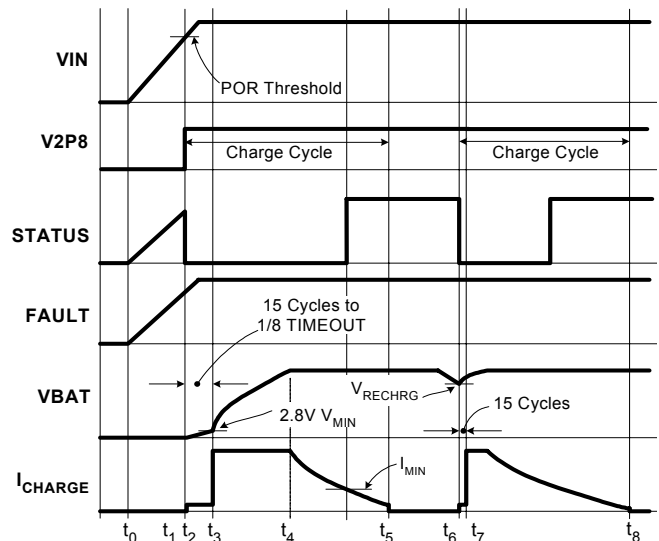

FIGURE 5. OPERATION WAVEFORMS
Figure 5 illustrates the typical signal waveforms for the linear charger from the power-up to a recharge cycle. More detailed Applications Information is given below.
LOW and a HIGH logic signal respectively. Figure 5 illustrates the start up of the charger between  $t_0$  to  $t_2$ .
A charge cycle consists of three charge modes: trickle mode, constant current (CC) mode, and constant voltage (CV) mode. The charge cycle always starts with the trickle mode until the battery voltage stays above  $V_{MIN}$  (2.84V typical) for 15 consecutive cycles of the internal oscillator. If the battery voltage drops below  $V_{MIN}$  during the 15 cycles, the 15-cycle counter is reset and the charger stays in the trickle mode. The charger moves to the CC mode after verifying the battery voltage. As the battery-pack terminal voltage rises to the final charge voltage  $V_{CH}$ , the CV mode begins. The terminal voltage is regulated at the constant  $V_{CH}$  in the CV mode and the charge current is expected to decline. After the charge current drops below  $I_{MIN}$  (1/10 of  $I_{REF}$ , see End-of-Charge Current for more detail), the ISL6292C indicates the end-of-charge (EOC) with the STATUS pin. The charging actually does not terminate until the internal timer completes its length of TIMEOUT in order to bring the battery to its full capacity. Signals in a charge cycle are illustrated in Figure 5 between points  $t_2$  to  $t_5$ .
After a charge cycle completes, charging is prohibited until the battery voltage drops to a recharge threshold,  $V_{RECHRG}$  (see Electrical Specifications). Then a new charge cycle starts at point  $t_6$  and ends at point  $t_8$ , as shown in Figure 5. The safety timer is reset at  $t_6$ .
The trickle mode charge has a time limit of 1/8 TIMEOUT. If the battery voltage does not reach  $V_{MIN}$  within this limit, a TIMEOUT fault is issued and the charger latches up. The charger stays in trickle mode for at least 15 cycles of the internal oscillator and, at most, 1/8 of TIMEOUT, as shown in Figure 5.
The EOC current  $I_{MIN}$  sets the level at which the charger starts to indicate the end of the charge with the STATUS pin, as shown in Figure 5. The charger actually does not terminate charging until the end of the TIMEOUT, as described in the Total Charge Time section. In the